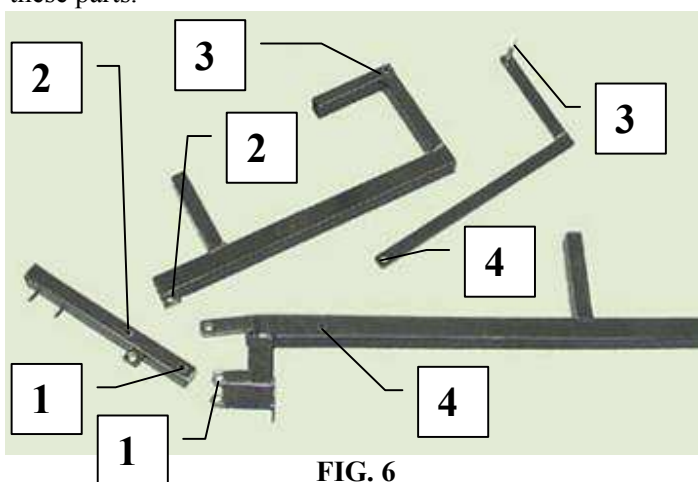
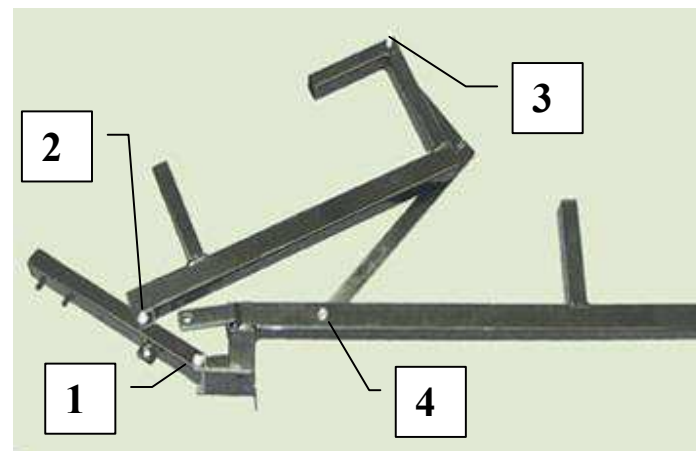
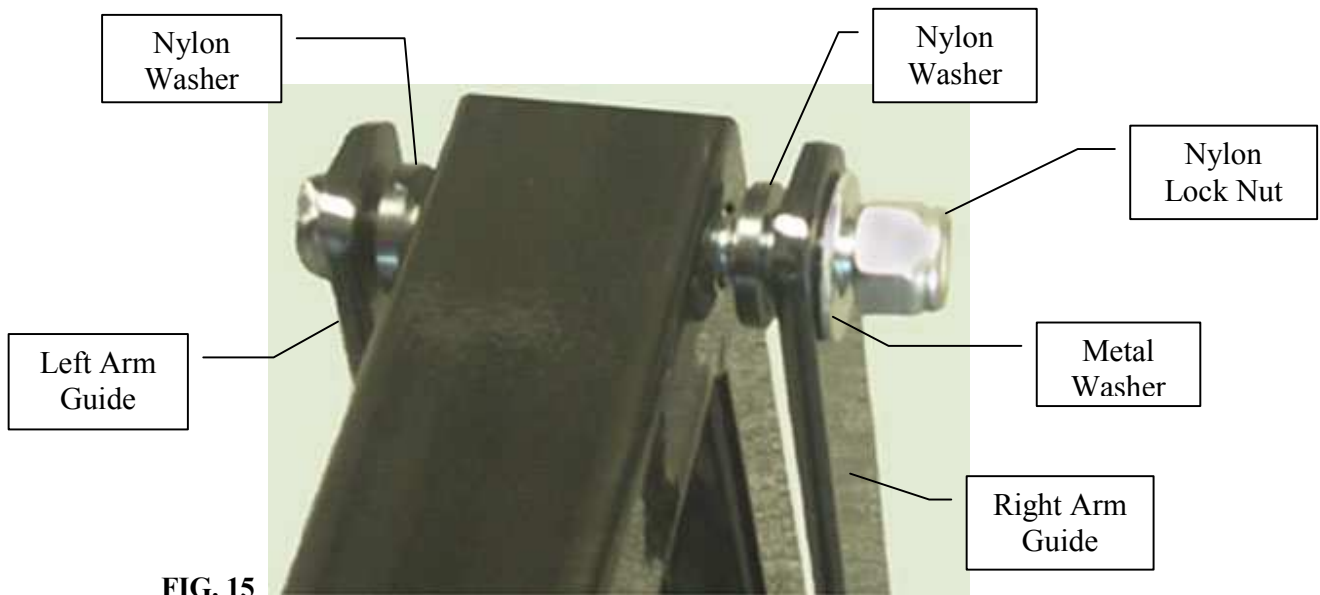

FIG. 6
FIG. 7
FIG. 15
3. **Temporarily attach movable parts.** Before attaching any of the parts to the van, temporarily lay out the parts shown in FIG 6, below. These parts include the Lifting Arm (A), the Resting Arm (B), the Mounting Base (C), and the Left Arm Guide (D). These parts may be temporarily assembled by using screws without nuts to demonstrate how each part attaches to two other parts. The numbers in Figs. 6 and 7, below, show where the parts attach to each other. To begin, attach the Lifting Arm to the Mounting Base with a 3-inch screw at the points marked "1". Next attach the Resting Arm to the Lifting Arm with a 3-inch screw at the points marked "2". Next attach the Left Arm Guide to the Resting Arm with the screw already welded to the end of the guide at the points marked "3". Finally, attach the Left Arm Guide to the Mounting Base with a 2-inch screw at the points marked "4". When completed the parts should appear as in FIG. 7. Note that the Right Arm Guide is not attached at this time in order to save time. Now disassemble these parts.
7. **Attach Movable Parts.** Attach the Lifting Arms, the Resting Arms, Mounting Bases, and Arm Guides together as shown in **Figs. 6 and 7**, above. When applying washers, place nylon washers under the head of the screw and a metal washer just below the lock nut. There are additional nylon washers for attaching the Arm Guides, and their purpose is to provide a space between each Arm Guide and the Mounting Base and between each Arm Guide and the Resting Arm. Figure 15, below, shows typical installation of the Arm Guides with washers and lock nut.